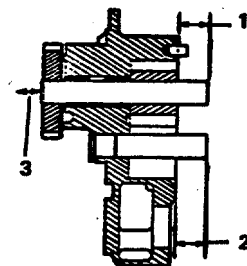

FIGURE 3-68. Limits.
See Table 3-5 and FIGURE 3-68 for the correct idler shaft protrusion after it is installed in the pump body.
d. Apply a coat of lubricating oil to the inside diameter of the driven gear (27, FIGURE 3-64). Install the gear (27) onto the drive shaft (30). Use an arbor press to push the gear (27) onto the shaft (30). See Table 3-5 and FIGURE 3-68 to find the correct amount of protrusion .the drive shaft must have after the gear is installed.